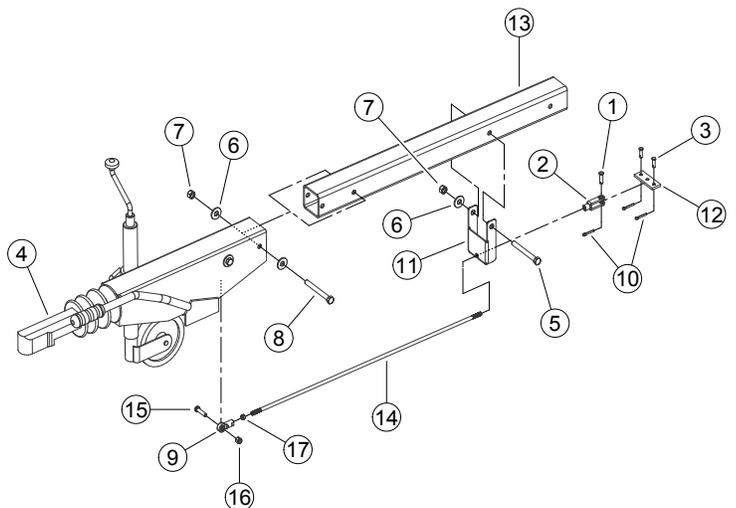

Figure 2.3, CE Compliant Hitch Assembly
CE COMPLIANT (FIGURE 2.3)
1. Place hitch pole (13) into machine frame. Place one 1/2" x 4 1/2" bolt, washer and centerlock nut through frame and end hole of hitch pole. Next, align the brake rod hanger bracket (11) (as shown in figure 2.3) to the other mounting hole and secure by placing the second 1/2" x 4 1/2" bolt (5) through the frame and hanger bracket, add washer (6) and centerlock nut (7). Torque both to 75 ft-lbs.